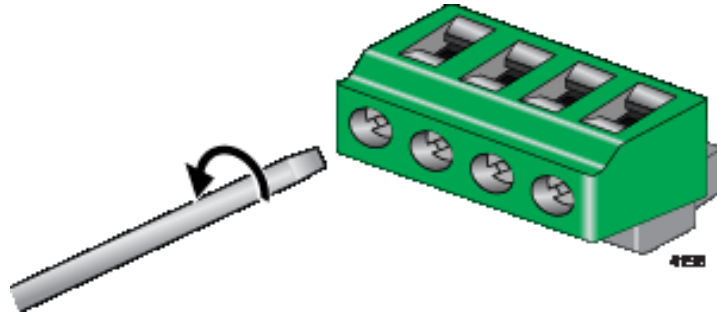

Figure 48. Loosening the Wire Retaining Screws on the PWR 1 - PWR 2 Cable Connector
4. Loosen the wire retaining screws in the connector with a #1 screwdriver. Refer to Figure 48.